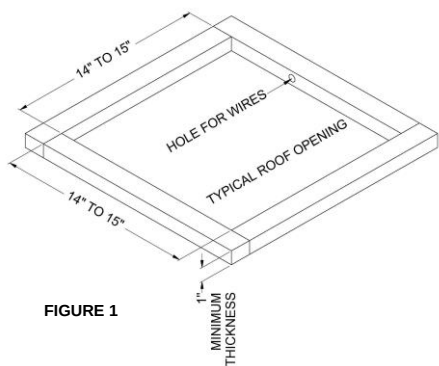

FIGURE 1
3. Examine the roof opening. If the opening is smaller than 14" x 14", the opening must be enlarged. If the opening exceeds 15" x 15", a mounting frame must be field fabricated to reduce the opening size (See Figure 1).
B. If a roof vent opening is not used, a new opening (See Figure 1) will have to be cut into the vehicle roof. A matching opening will also have to be cut into the interior vehicle ceiling. If the ceiling opening is carpeted, snagging could occur. After the opening in the roof and interior ceiling are the correct size, a framed support structure must be provided between the exterior rooftop and the interior ceiling. The reinforced frame structure must provide the following:
Airxcel, Inc. requires that the spacing from the vehicle rooftop to the interior ceiling be no less than 1". A typical support frame is shown in Figure 1.